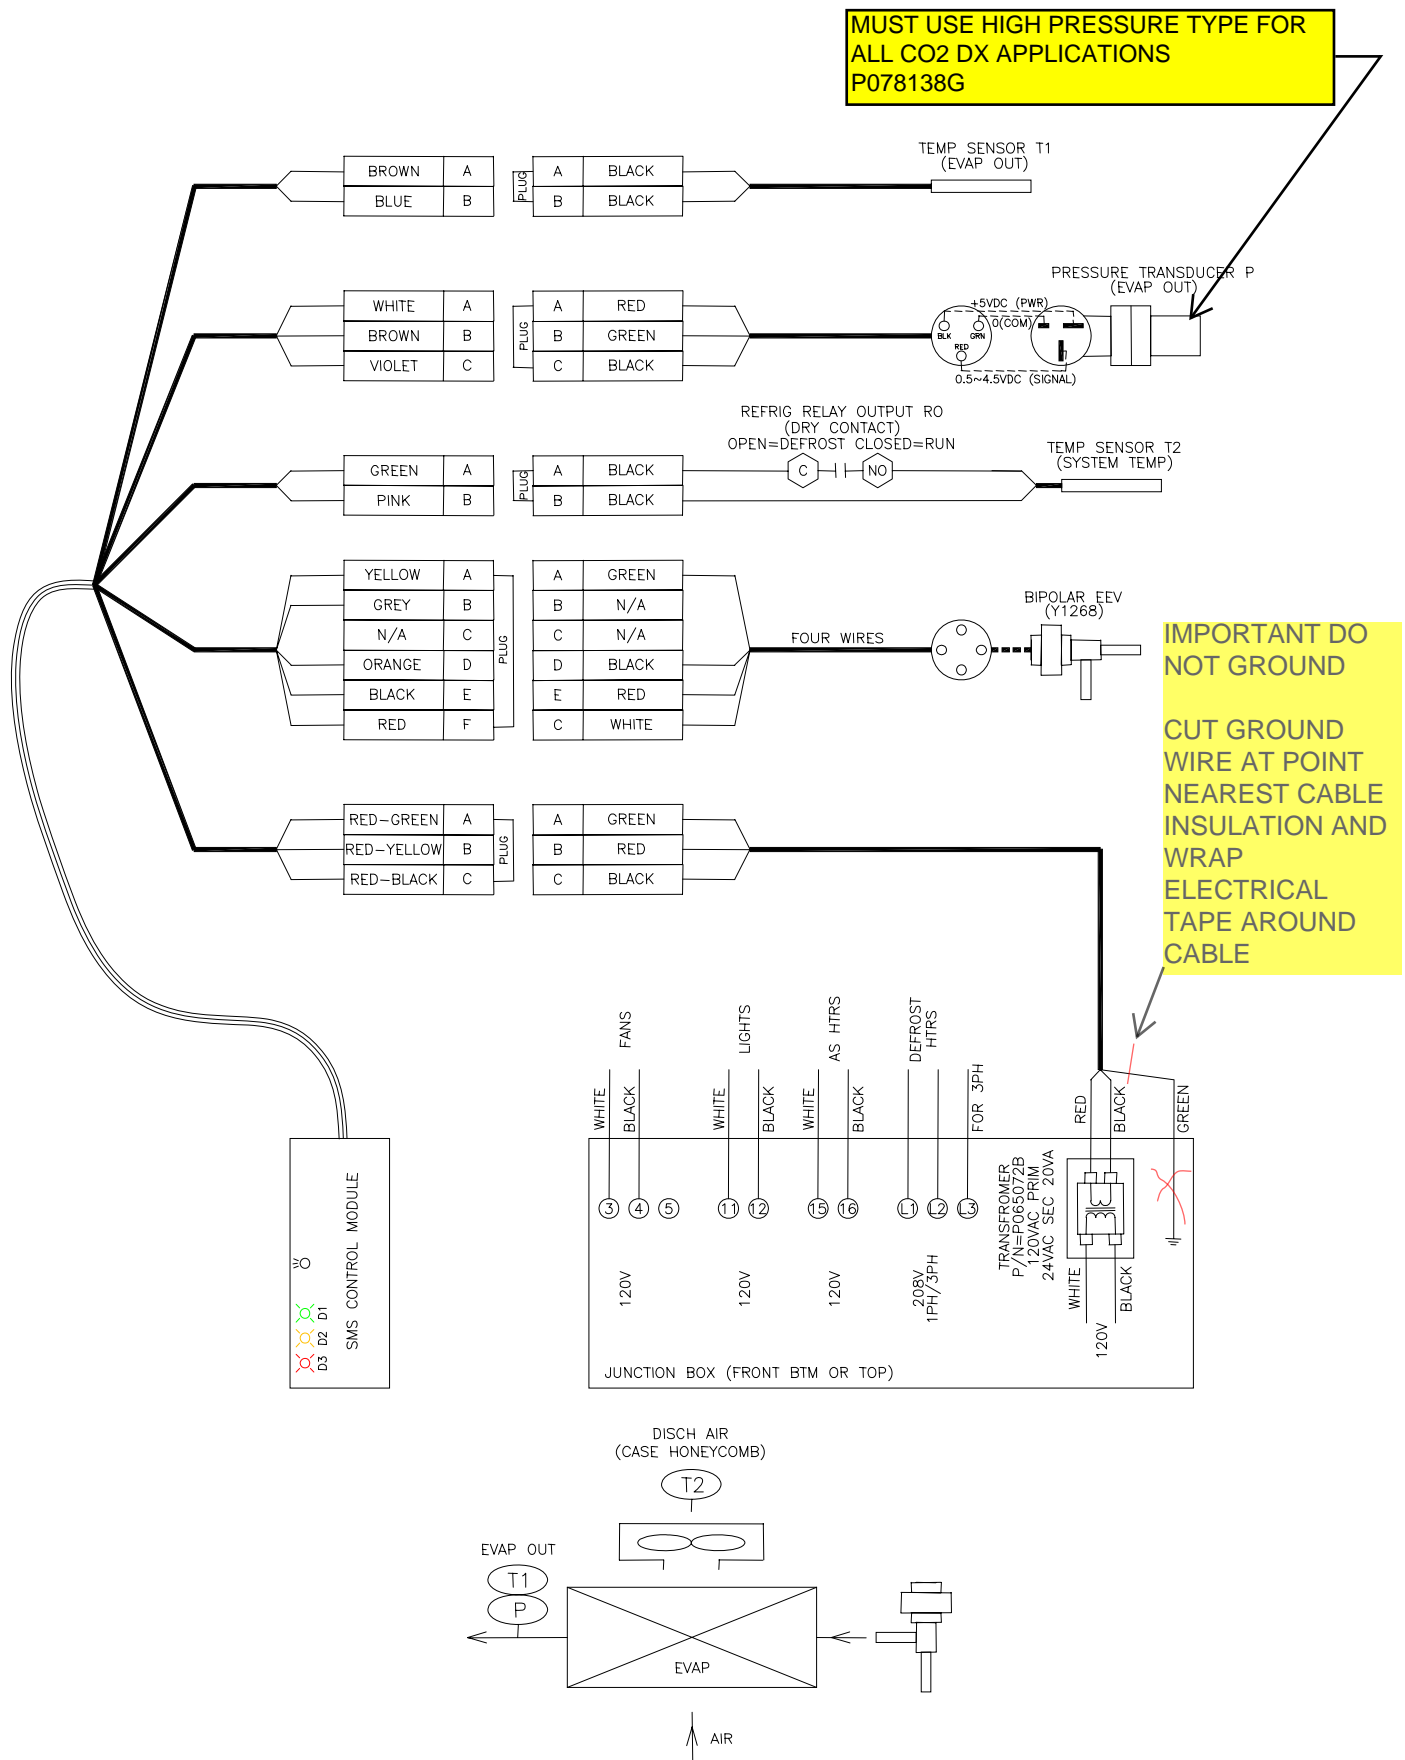

Figure 3. Basic Smart Valve Wiring Without Dual-Temp Control
When a case operates in low-temperature (LT) mode, the second temperature sensor T2 is wired in series with a refrigeration/defrost relay (dry contact output) from the EMS controller (see Figure 3). When a case goes defrost, the refrigeration relay is open. The “System Temp” shows -40°F and the valve will be fully closed. After defrost is finished, the refrigeration relay is closed. The “System Temp” T2 measures air temperature at discharge honeycomb and the valve is regulating the superheat. The case temperature is controlled at the rack CO2 suction pressure. The cutin / cutout settings of control module remain the default values at -26/-28°F.